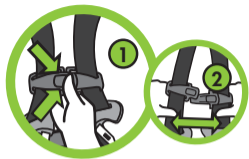

Figure 23
- Press release tab in (1) and pull apart (2) to separate as shown in **Figure 23**.